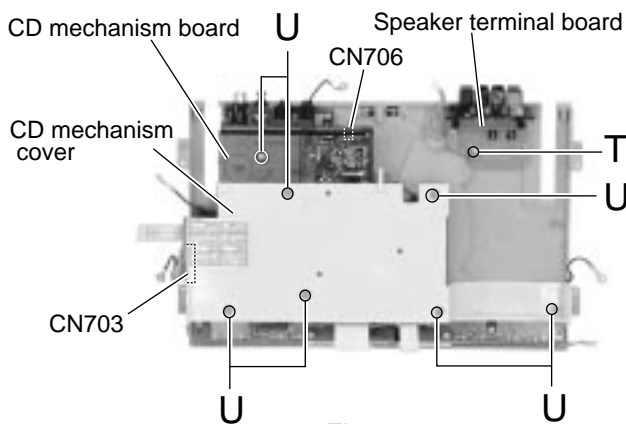

Fig.29
**■Removing the speaker terminal board (See Fig.29)**
**■Removing the CD mechanism board / CD mechanism assembly (See Fig.29 to 34)**